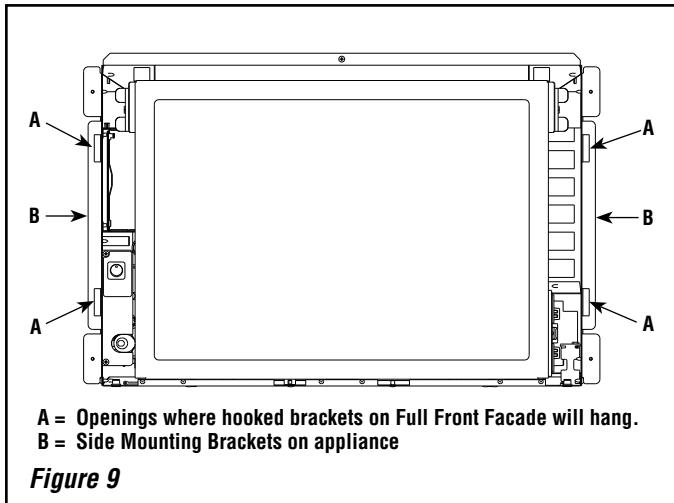

Figure 9
3. Hang the hooked brackets on the Full Front Facade into the openings on the side mounting brackets on the appliance (see **Figure 9**).